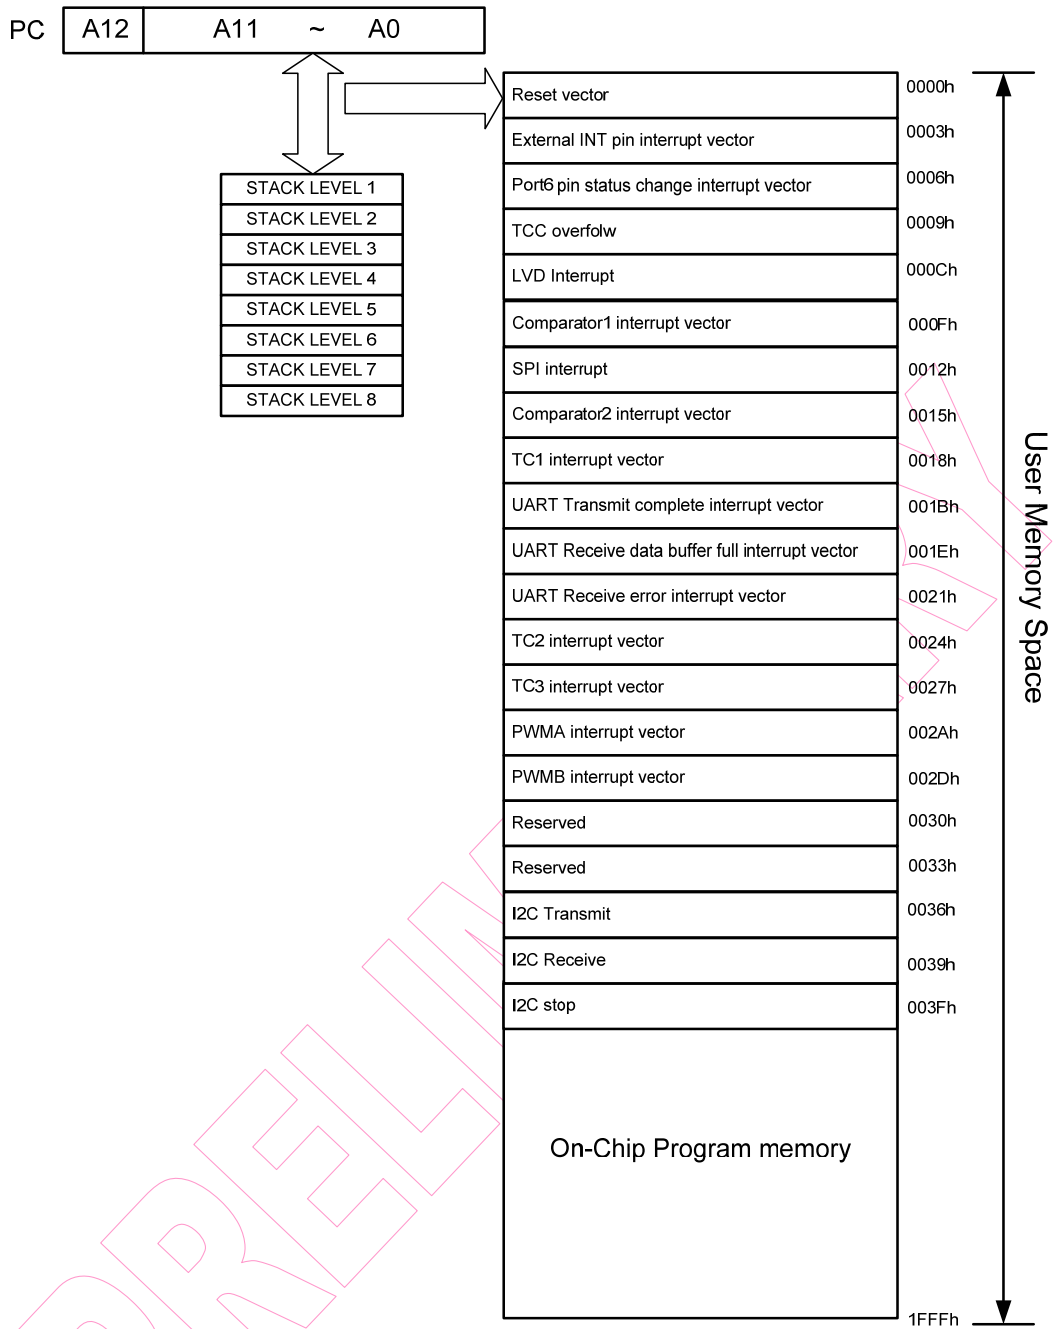

Fig. 3 Program Counter Organization
- Depending on the device type, R2 and hardware stack are 12-bits wide. The structure is depicted in Fig.3.
- "LJMP" instruction allows direct loading of the lower 13 program counter bits. Therefore, "LJMP" allows PC to jump to any location within 8K (213).
- "LCALL" instruction loads the lower 13 bits of the PC, and then PC+1 is pushed into the stack. Thus, the subroutine entry address can be located anywhere within 8K (213).